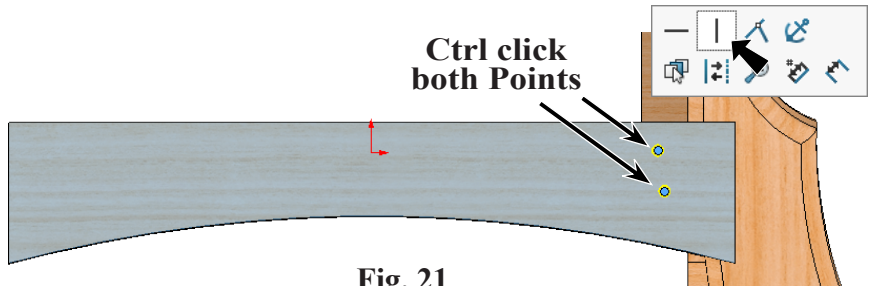

Fig. 21
Step 6. **Ctrl click both Points** to select both. Release Ctrl key and click **Make Vertical**  on the context toolbar, **Fig. 21**.